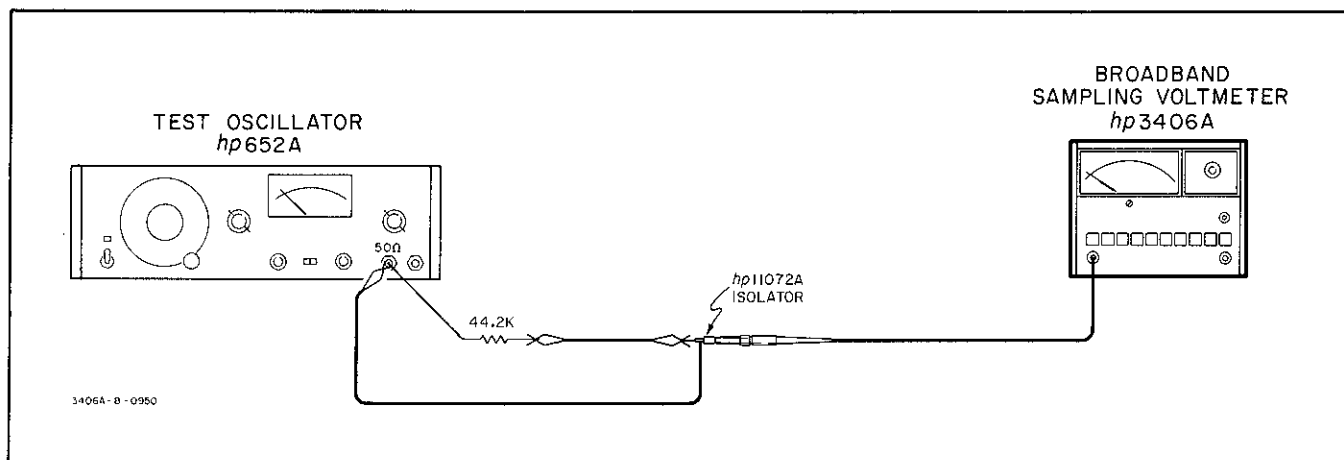

Figure 5-4. Input Impedance Test Setup
- b. With 11072A Isolator attached to probe, connect the Model 3406A to 50Ω output on oscillator through the resistor as illustrated in Figure 5-4.